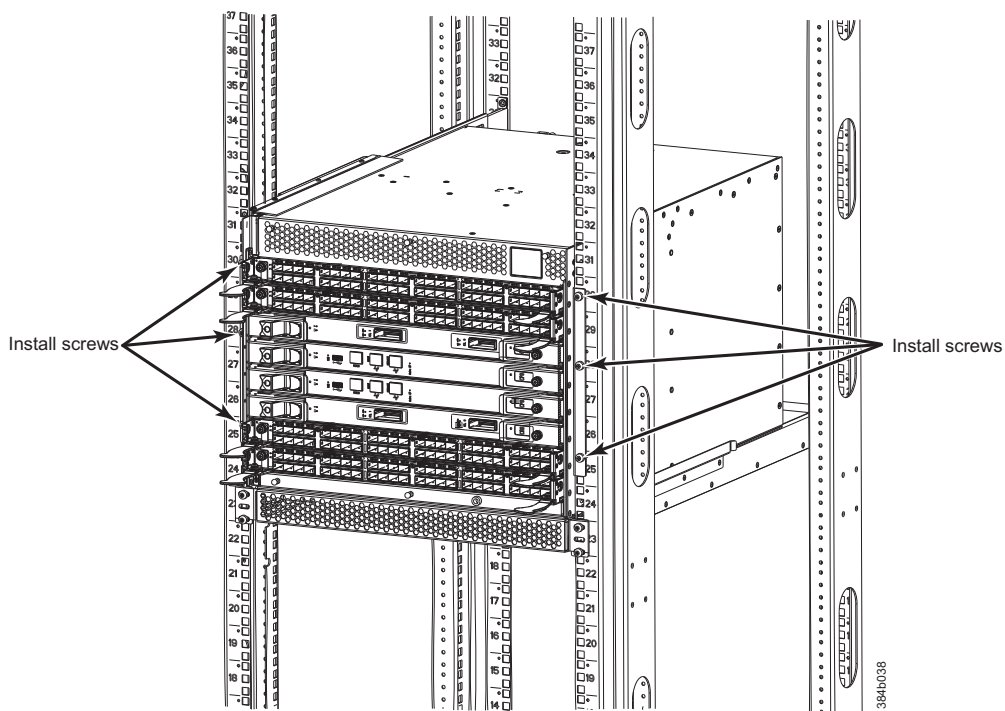

Figure 14. Location of screws to attach the chassis to the cabinet rails
13. The chassis will be secured to the cabinet with six 10-32 screws with washers (see Figure 14 on page 30). Four of these screws will also be used to attach the cable management finger assemblies. Do not install the screws until you determine the position of the cable management fingers.